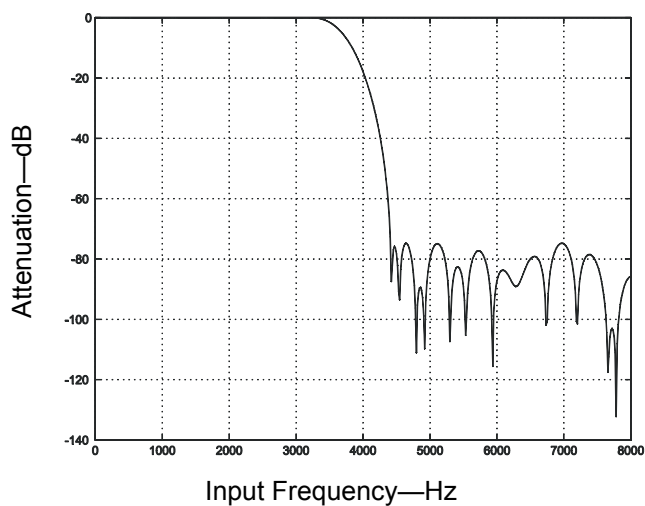

Figure 6. FIR Receive Filter Response
**Note:** Typical FIR filter characteristics for  $F_s = 8000$  Hz are shown in Figures 6, 7, 8, and 9.
For Figures 6–9, all filter plots apply to a sample rate of  $F_s = 8$  kHz. The filters scale with the sample rate as follows: